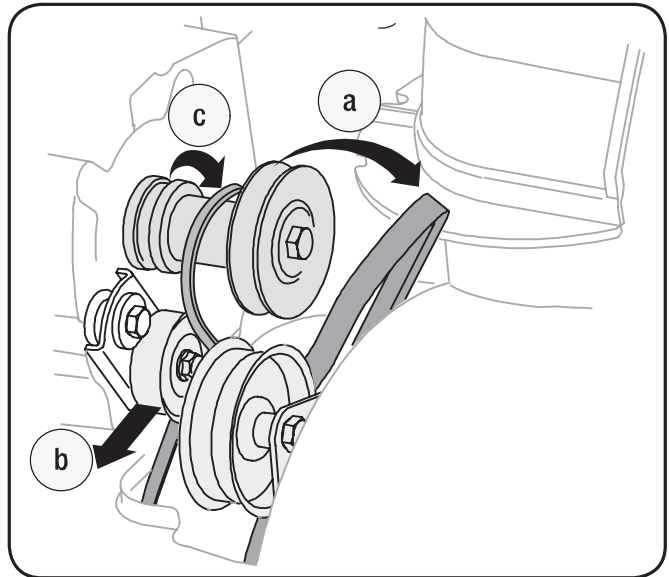

Figure 8-6
- Remove the belt as follows. See Fig. 8-6: